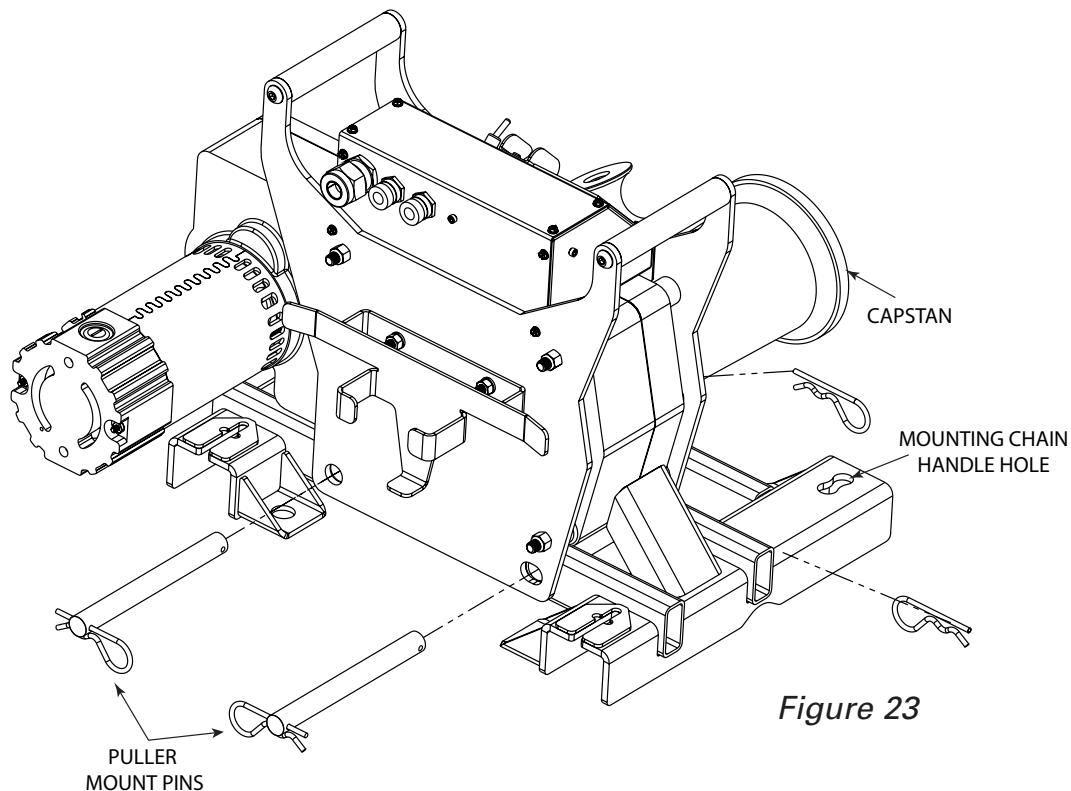

Figure 23
**NOTE:** Install Model #1450 puller onto the chain mount by lowering the puller over the chain mount and inserting the puller mount pins (See Figure 23). Secure the puller mount pins with spring clips. The puller **MUST** be mounted onto the chain mount with the capstan on the same side as the mounting chain handle holes. (See Figure 20).